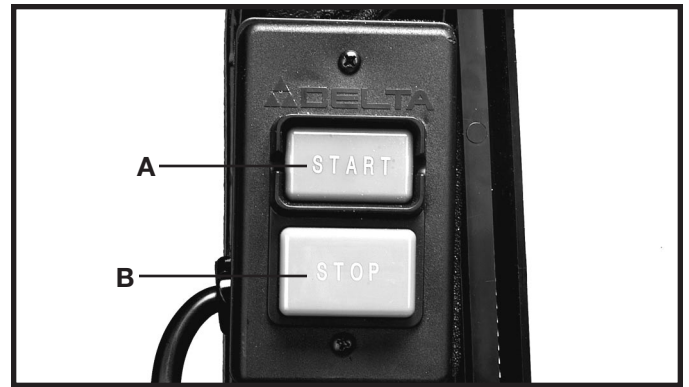

Fig. 41
The power switch is located on the left side of the machine. To turn the machine “ON”, push the green start button (A) Fig. 41. To turn the machine “OFF”, push the red stop button (B).